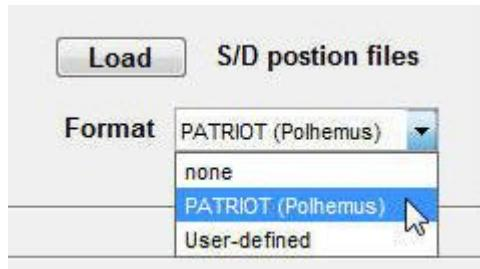

Figure 7-16. Specification of Patriot Data
Step 1: First select the format of the coordinate files you will load. Click the 'Format' pull-down menu, shown in Figure 7-16, will reveal two options: PATRIOT (Polhemus) and User-defined.